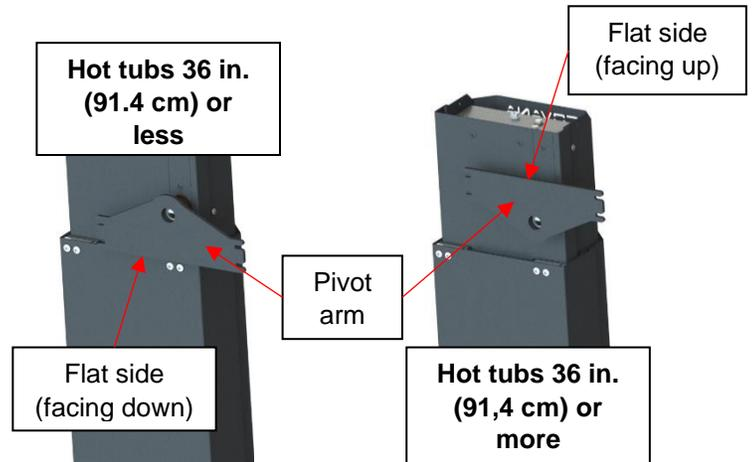

Figure 69
- 1) Insert the pivot arm on the tube on top of the first post assembly. For hot tubs 36 in. (91.4 cm) high or less, place the pivot arm flat side facing down. For hot tubs above 36 in. (91.4 cm) high, place the pivot arm flat side facing up. (Figure 69)